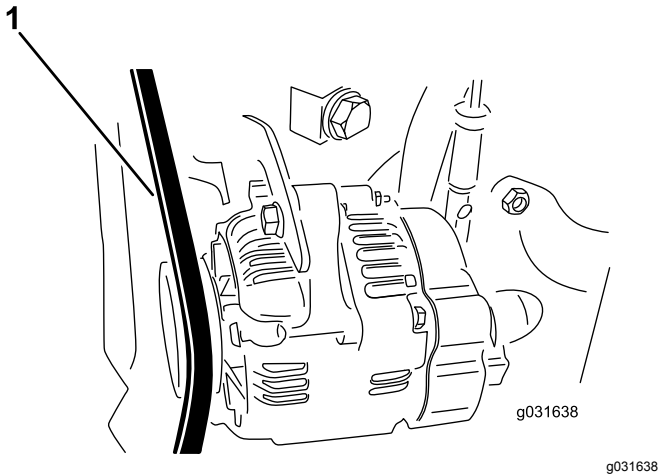

Figure 75
4. Apply 30 N (22 in-lb) of force to the alternator belt, midway between the pulleys (Figure 75).